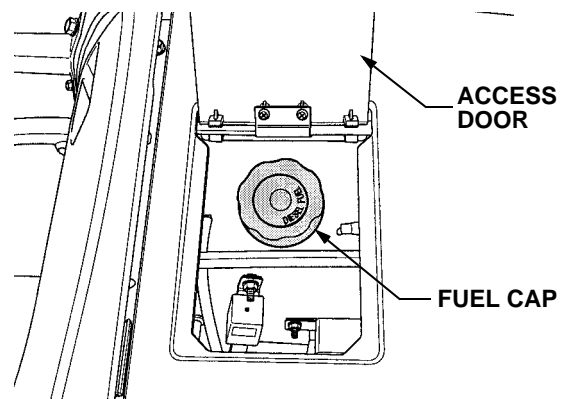

Figure 21
- The fuel fill cap is located beneath the small access door in the rearward end of the hood. Press downward on the rear of the door to open. See Figure 21.